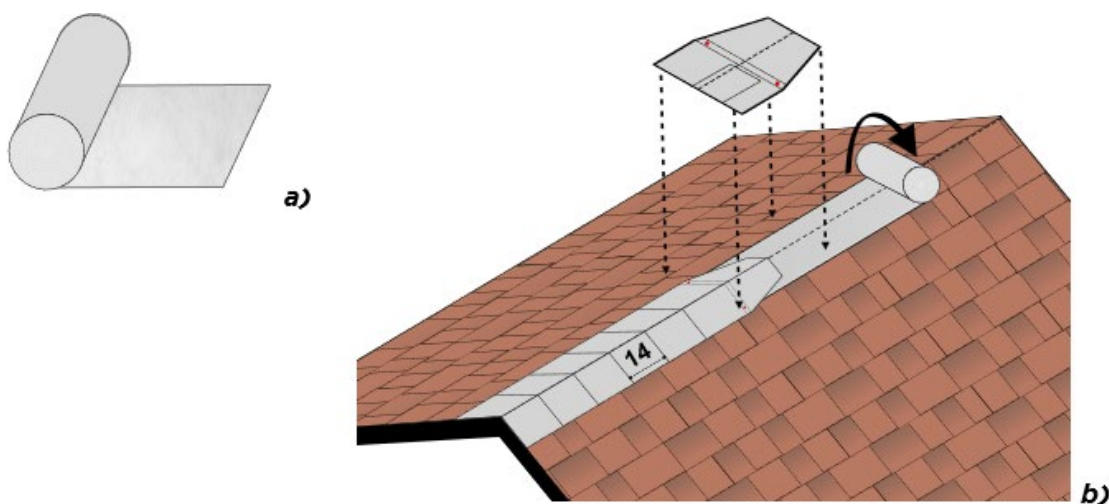

Fig. 13 - Top Roll and ridge elements installation
- Place the Top Roll SA along the centre of the ridge line, removing the protective film from the underside of the roll that covers the butyl tape. This will waterproof the ridge itself where the Master shingles are cut - Fig. 13 a).
- Secure the ridge elements above the Top Roll SA with 2 nails of at least 40mm in length, one nail for each side of the pitch. Leave a 14 cm exposed section between each ridge element - Fig. 13 b).